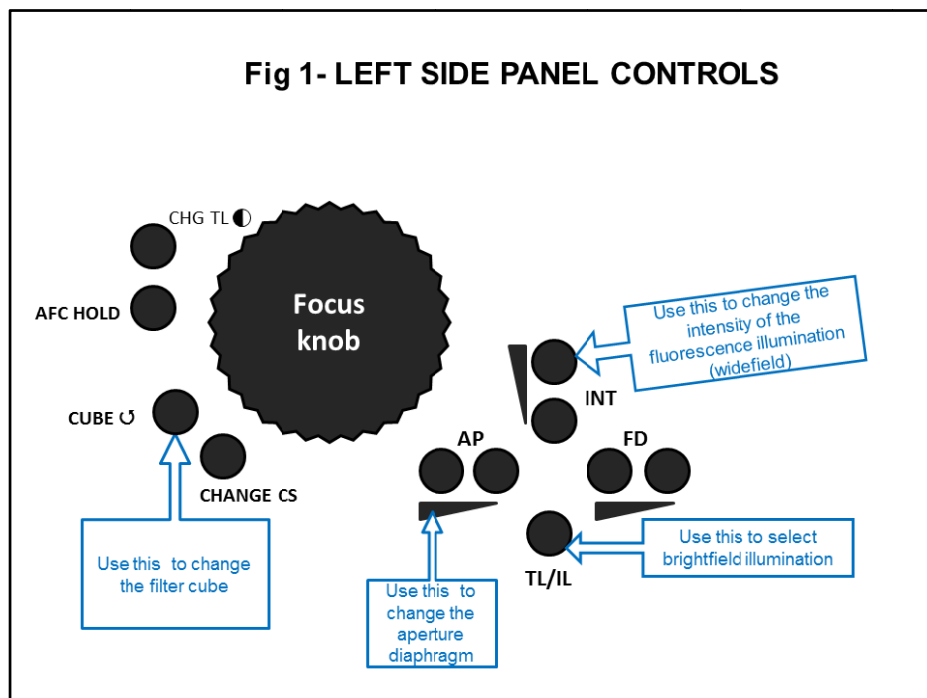

Fig 2: FRONT PANEL CONTROLS AND SCREEN
- To use the fluorescence light, make sure you have selected the appropriate cube using the control panel on the front of the microscope(see fig 2). Then press the “shutter” button to direct the fluorescence light onto the sample